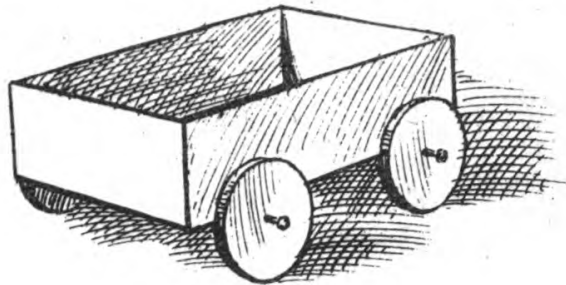

FIG. 23.
*Railway Truck*, consisting merely of the inner part, or tray of a match box, with two match-stick axles glued across the bottom, and four cardboard wheels secured in position by means of "doll pins" (Fig. 23); and then you can proceed